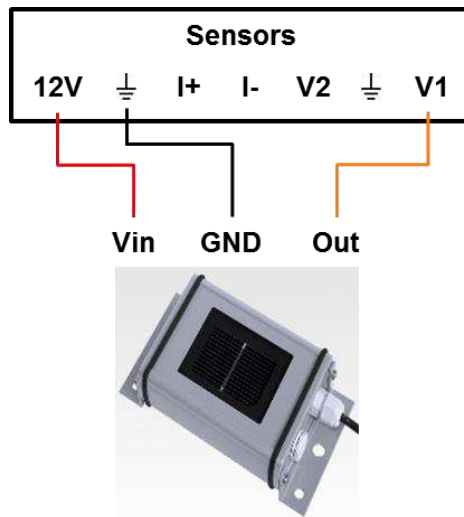

Figure 6: Connecting the Solar Irradiance Sensor
- 1 Connect the colored sensor wires to CCG as shown in Figure 6 below: